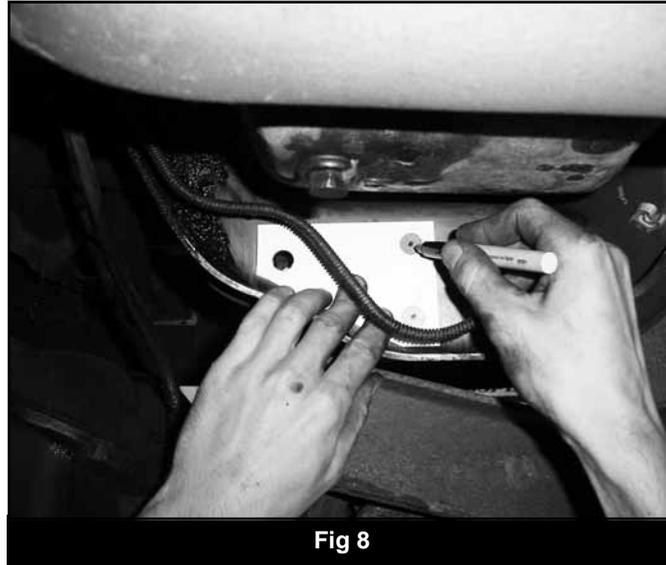

Fig 8
16. Cut out the template on the back of the instruction sheet. Place template as shown in the figure. Note: Match the holes to be drilled to the replacement bracket given in the kit. The two holes shown should be vertical, and the outer profile should be horizontal. Drill holes out to 9/16". (Fig 8)